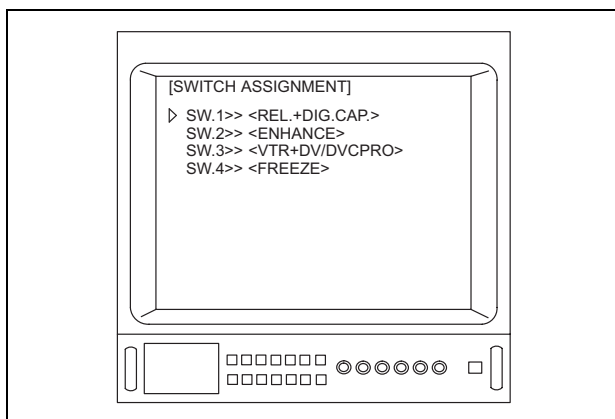

Figure 5.5
- Move the arrow “▷” to the function that you would like to set up, then depress the menu switch “◀” or the “Enter” key on the keyboard to go to the respective menu. (For example, depress the the menu switch “◀” or the “Enter” key on the keyboard when the menu shown in Figure 5.4 is displayed to go to the menu shown in Figure 5.5.)
- The number of “SWITCH ASSIGNMENT” displayed (see Figure 5.5) depends upon the number of remote control switches on the camera head or videoscope.
- Depending upon the OTV-S7V's settings, the menu shown in Figure 5.5 may appear different from that displayed on the video monitor.
- Press the menu switch “” or the “F1” key on the keyboard quickly to go to the previous menu. (For example, press the menu switch “” or the “F1” key on the keyboard quickly when the menu shown in Figure 5.5 is displayed to go the menu shown in Figure 5.4.)